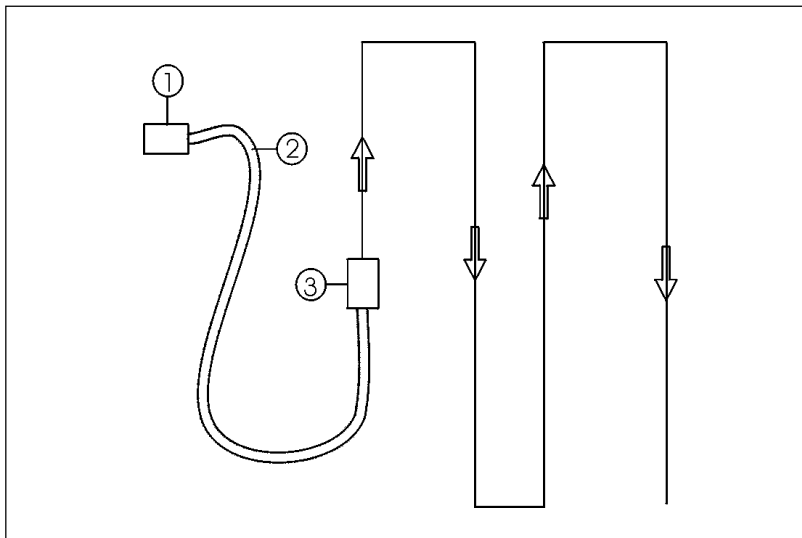

Fig. 6.1
Figure 6.1 shows the recommended scarifying paths leading away from the filter unit.
- ☒ Place the scarifier near to the filter unit and spread out the hose as shown in fig. 6.1.